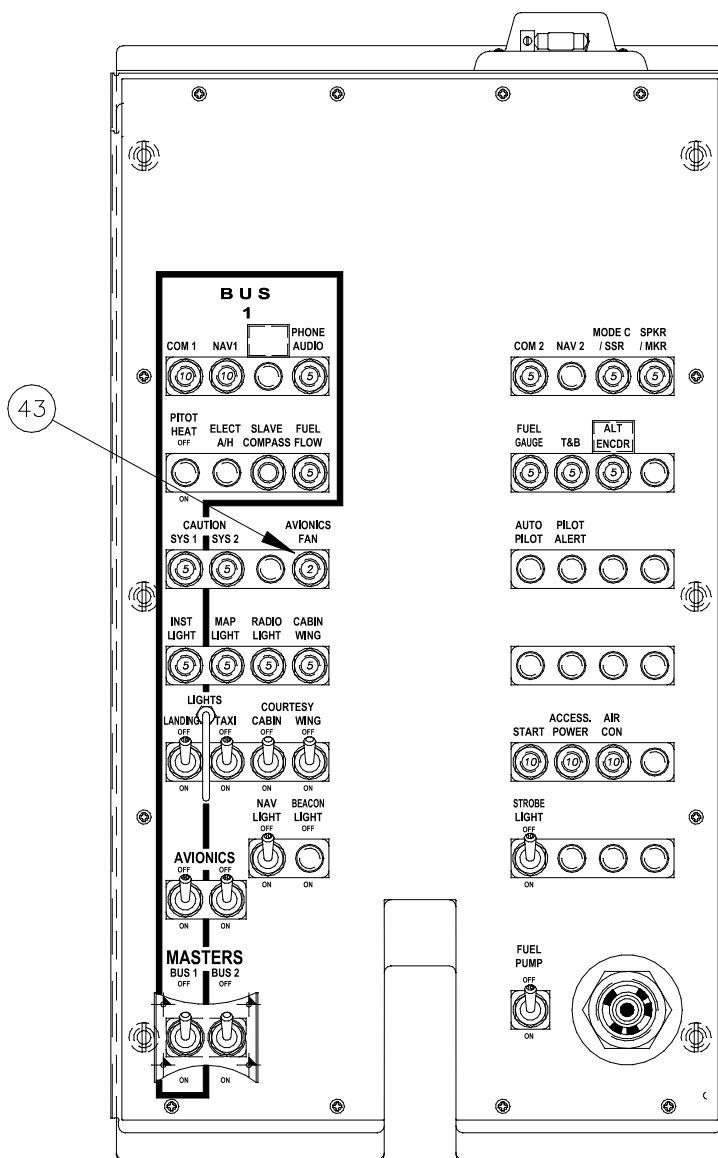

Figure 4 – Modification to electrical overhead panel
- 2.2. Remove the existing 5A circuit breaker and replace with item 43 as noted in Figure 4.